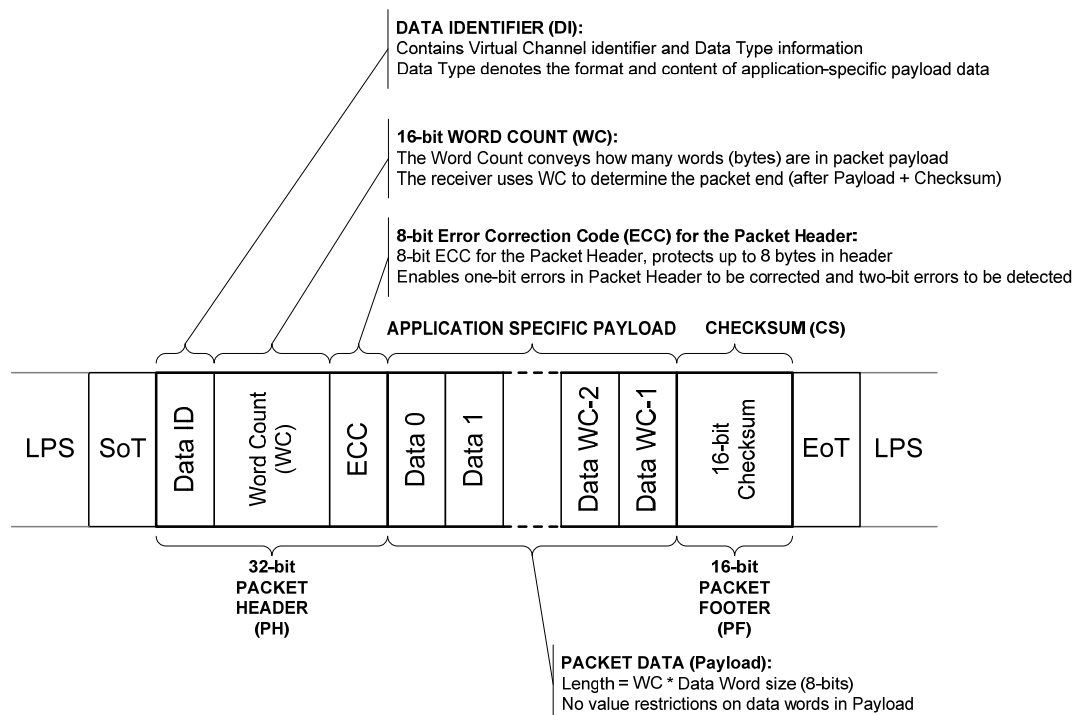

Figure 13. Long Packet Structure
Figure 13 shows the structure of the Long packet. A Long packet shall consist of three elements: a 32-bit Packet Header (PH), an application-specific Data Payload with a variable number of bytes, and a 16-bit Packet Footer (PF). The Packet Header is further composed of three elements: an 8-bit Data Identifier, a 16-bit Word Count, and 8-bit ECC. The Packet Footer has one element, a 16-bit checksum. Long packets can be from 6 to 65,541 bytes in length.